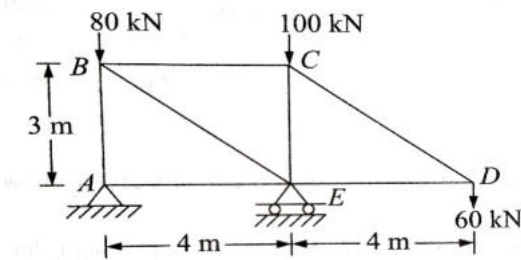

Figure 4.
6. Determine the forces developed in all the members of the trusses [14M] shown in figure 4, by using method of tension coefficient.